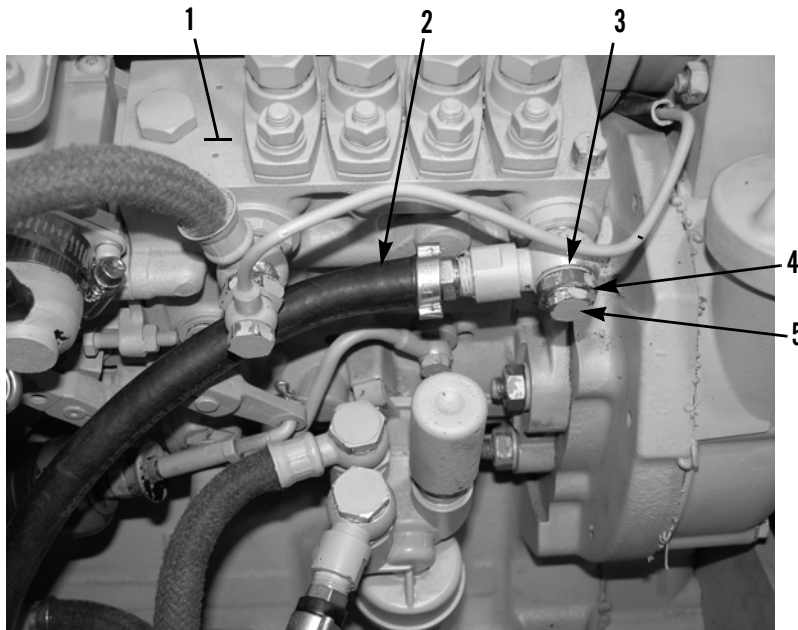

Figure 1. Overflow Hose at Fuel Injection Pump.
2. Remove fluid passage bolt (Figure 1, Item 5), sealing washer (Figure 1, Item 4), overflow hose (Figure 1, Item 2), and sealing washer (Figure 1, Item 3) from fuel injection pump (Figure 1, Item 1). Discard sealing washers.